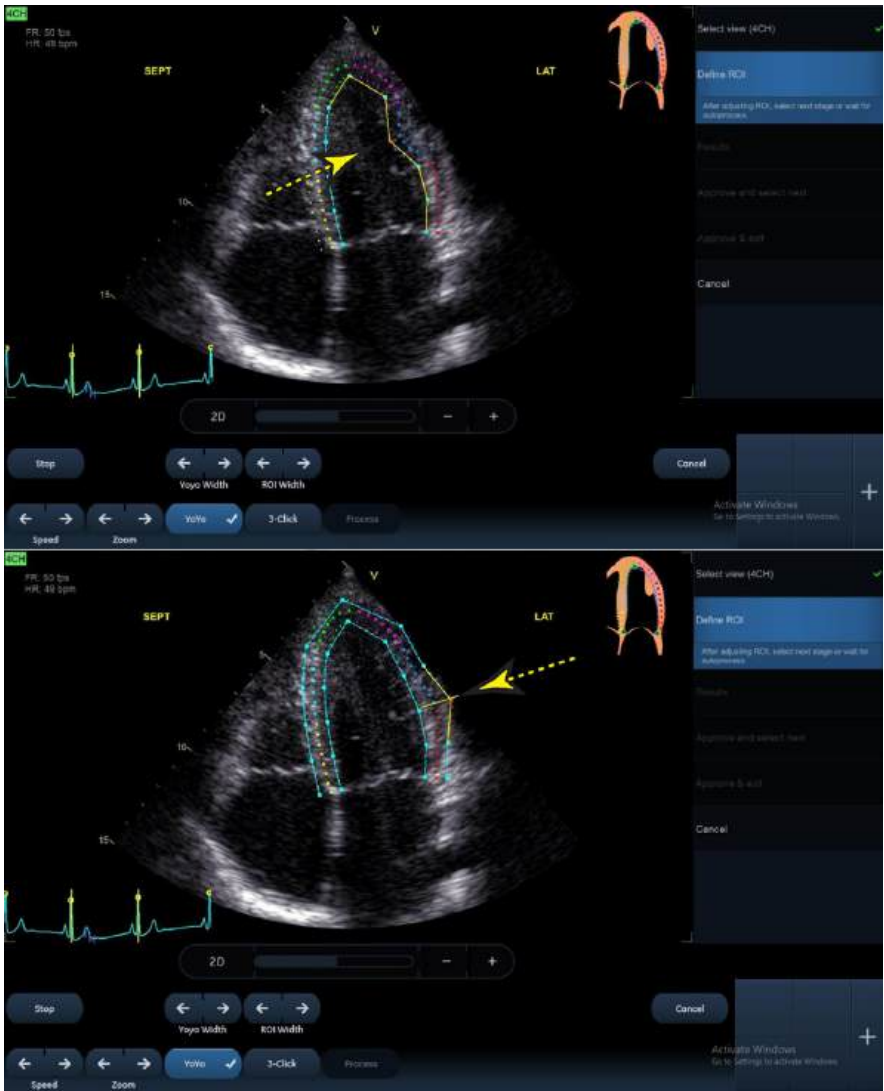

Figure 8-18. ROI Editing Options
- Click-and-drag (or click, move the mouse, click to release) on the endocardial part of the ROI. Endocardial editing edits the whole ROI (Figure 8-18, upper part).
- Click-and-drag (or click, move the mouse, click to release) the anchor points on the epicardial ROI (highlighted in red on mouse hovering). Epicardial editing edits the epicardial part only (Figure 8-18, lower part).
- *BE + traces*: In addition to the Bull's eye, also displays the strain traces for all three views. In this view, it is possible to correct trace peaks by clicking and dragging peak markers or clicking the corresponding segment in the Bull's eye (Figure 8-18).